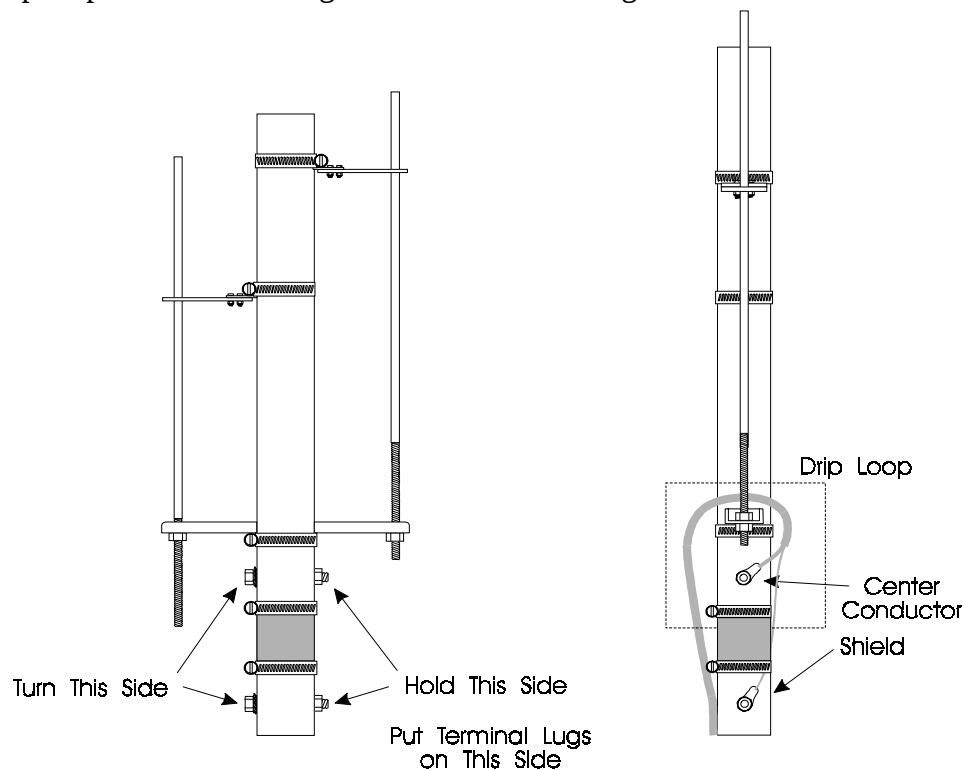

Figure 8
23. Remove the nuts on the center insulator bolts of the main element and install the **center conductor** lug of the coax **under the upper** element nut and the **shield** lug **under the bottom** element nut. Hold the nut in place and turn the bolt head to tighten these bolts so that the lug does not break off the end of the coax. Be sure to dress the coax so it loops up in a drip loop so water cannot get into the end. See Figure 8.